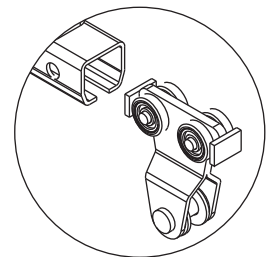

Fig. 14 Hoist Trolley
- d) Install the hoist trolley (fig 14).
- e) Open festoon trolleys, attach to wire and secure again (fig 14).